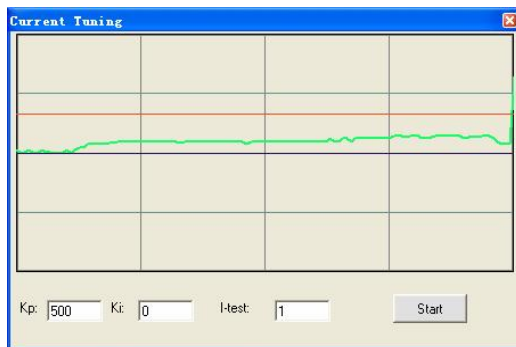

Figure 6-21: Current loop tuning with Kp=500, Ki=0
Step 2: Click the **Start** button and the plot window will show two curves. The red one is target current and the green one is actual current. There is large gap between them in the scope. It indicates that a large **Kp** need to be introduced. See figure 6-21.